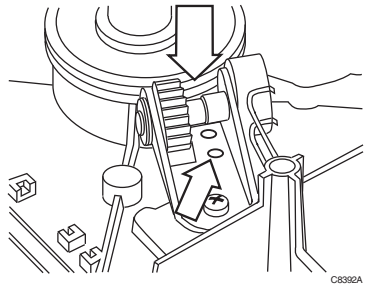

Fig. 2. Installing new potentiometer.
3. Install new potentiometer beneath the large actuator gear so the potentiometer gear engages the flat disk-shaped gear. See Fig. 2.